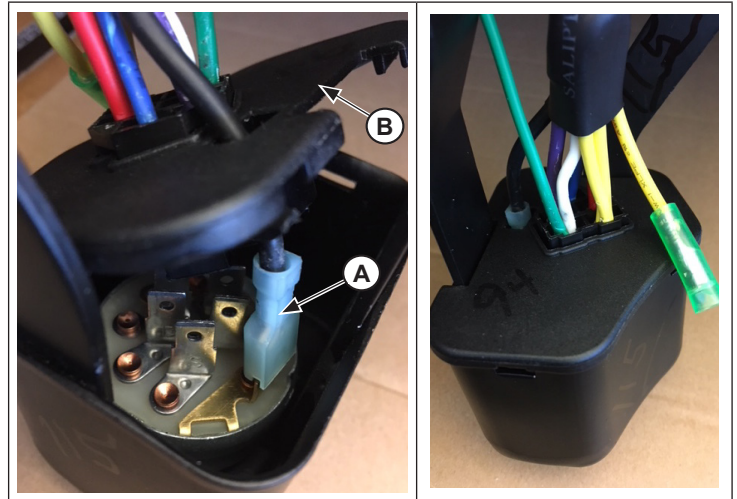

Figure 2. Attach New Harness to New Key Box.
3. Attach the new harness (A) to the new key box. Snap the cover (B) onto the new key box. See Figure 2.